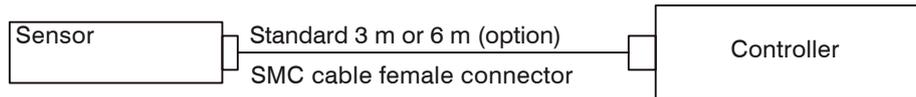

Fig. 6 Type of sensor cable, plug-in connection cable
- plug-in connection cable, see Fig. 6.